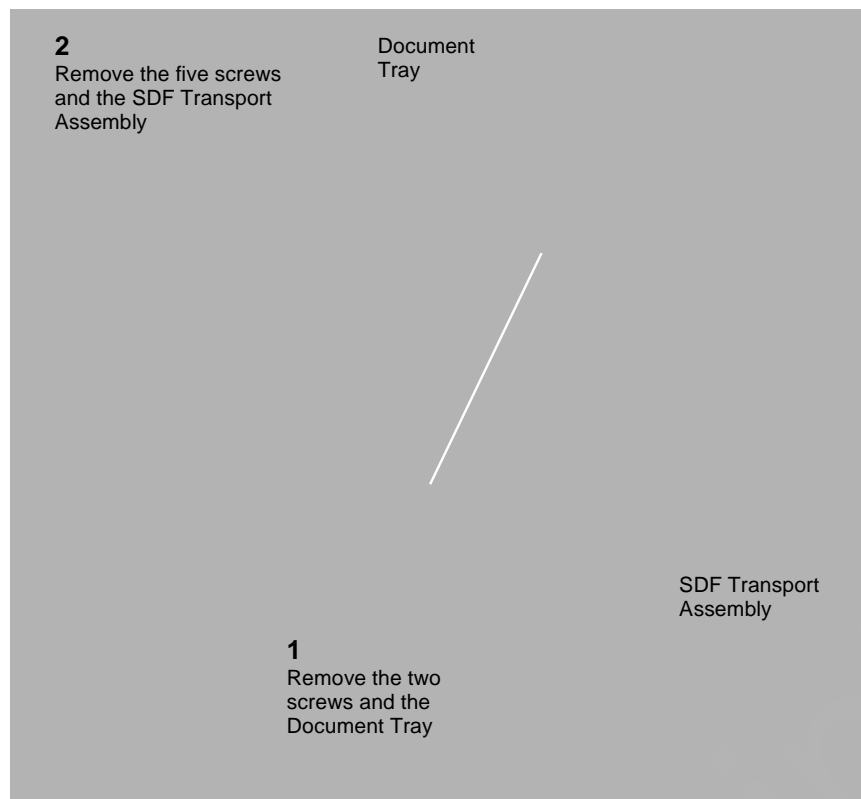

Figure 3 Removing the Main PWB
4. (Figure 3): Remove the Main PWB.